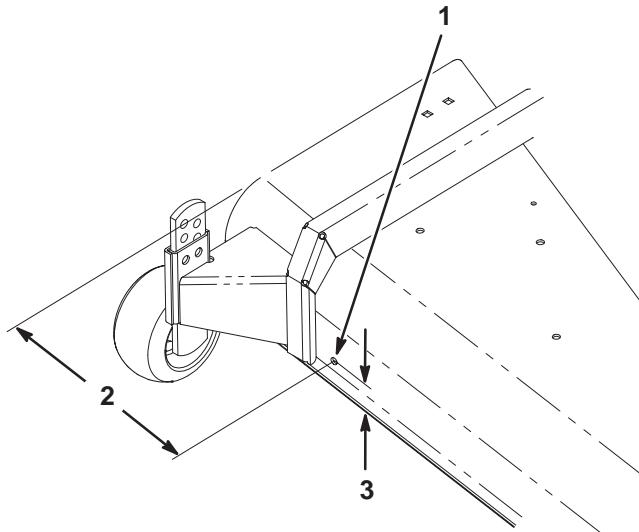

Figure 3
2. Mark and drill (6) 11/32" holes	4. Discharge Opening Side
- Mark the location of the lower deflector hole in the front of the mower deck and drill one (1) 11/32" hole (Fig. 3).